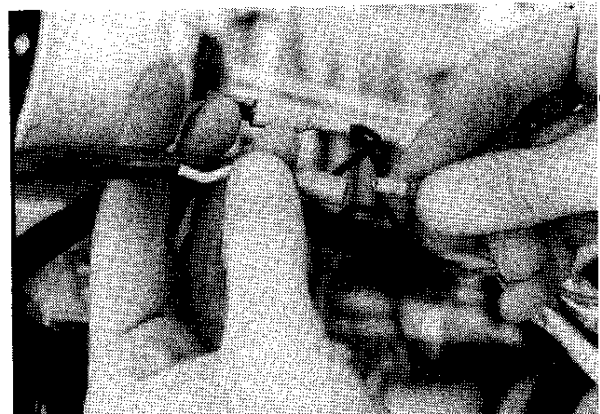

Figure 2.64
72. Hook-up kill switch electrical connectors. **Figure 2.64**